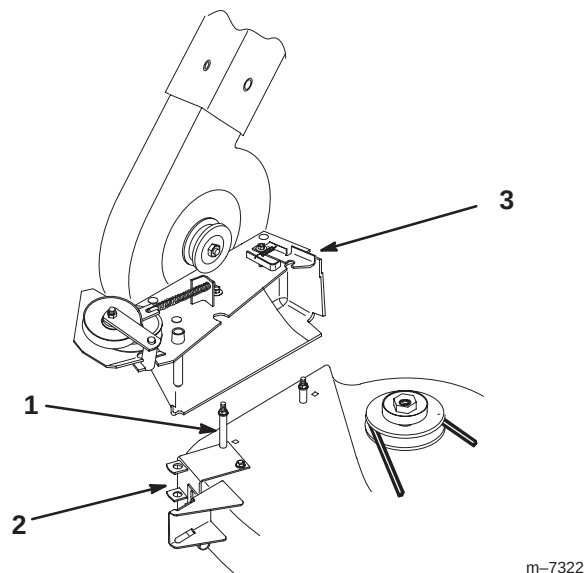

Figure 9
4. Install the blower by lowering the pivot pin into the pivot support (Fig. 9).